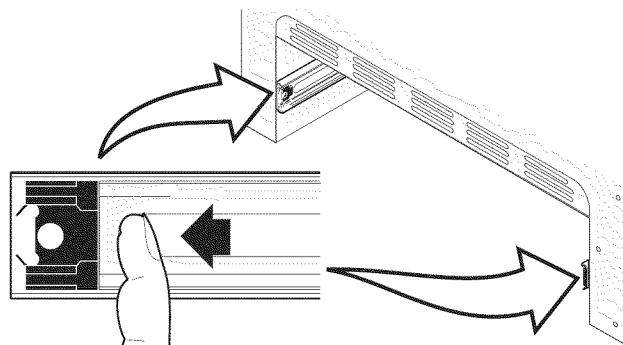

**Figure 49: Removing the warmer drawer**
3. On left warmer drawer rail, locate black release lever and press up with finger while pulling out slightly on the oven drawer handle. On right warmer drawer rail, locate black release lever and press down with finger while pulling out slightly on the warmer drawer handle (See Figure 49).